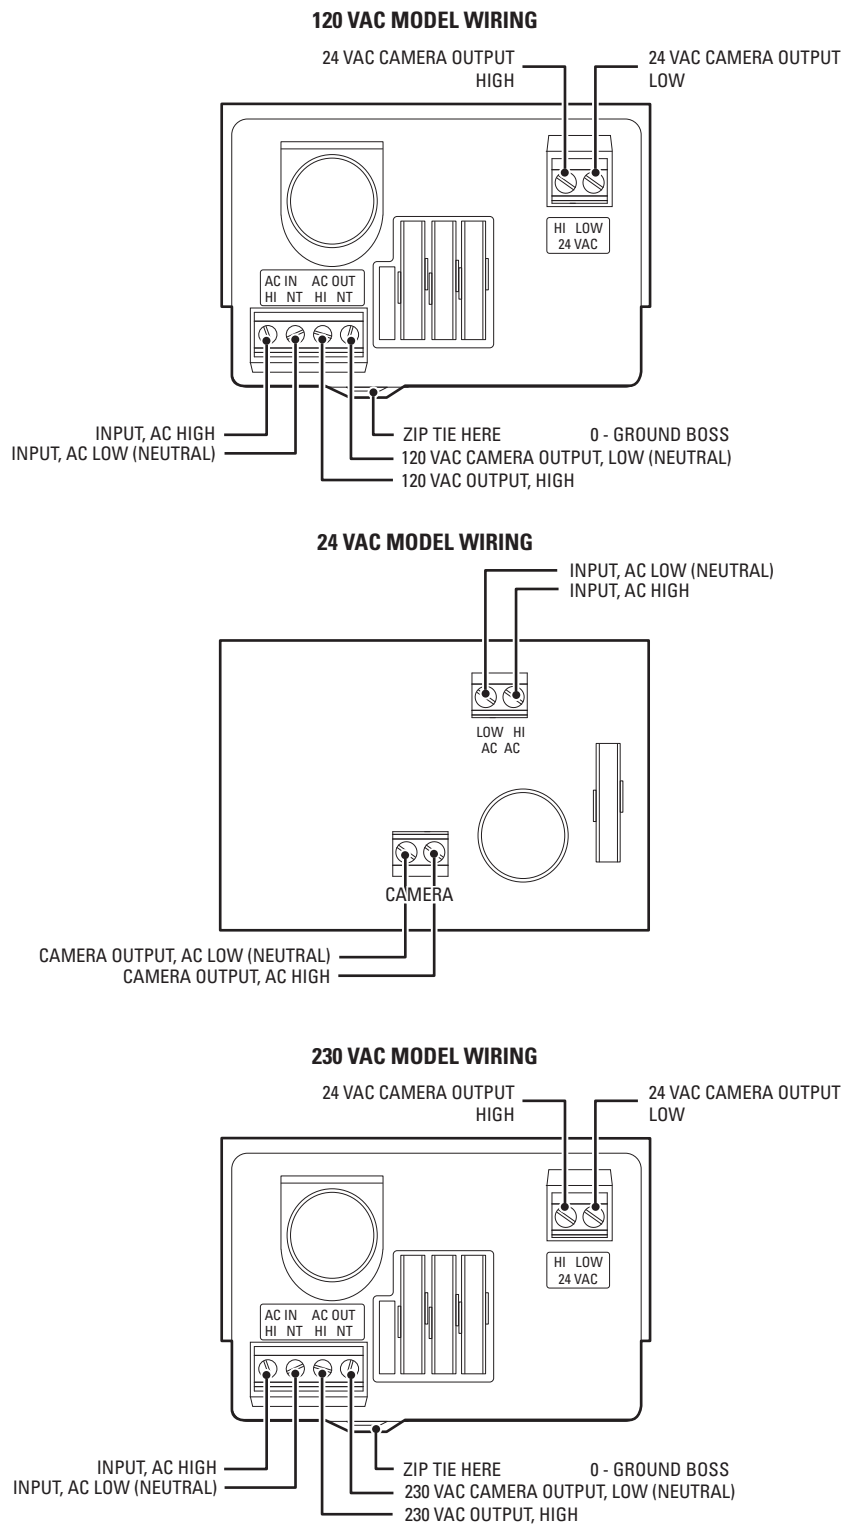

Figure 5. EH1512 Wiring Diagram
14. Refer to Figure 5 on page 10 to connect power to the enclosure and the camera.